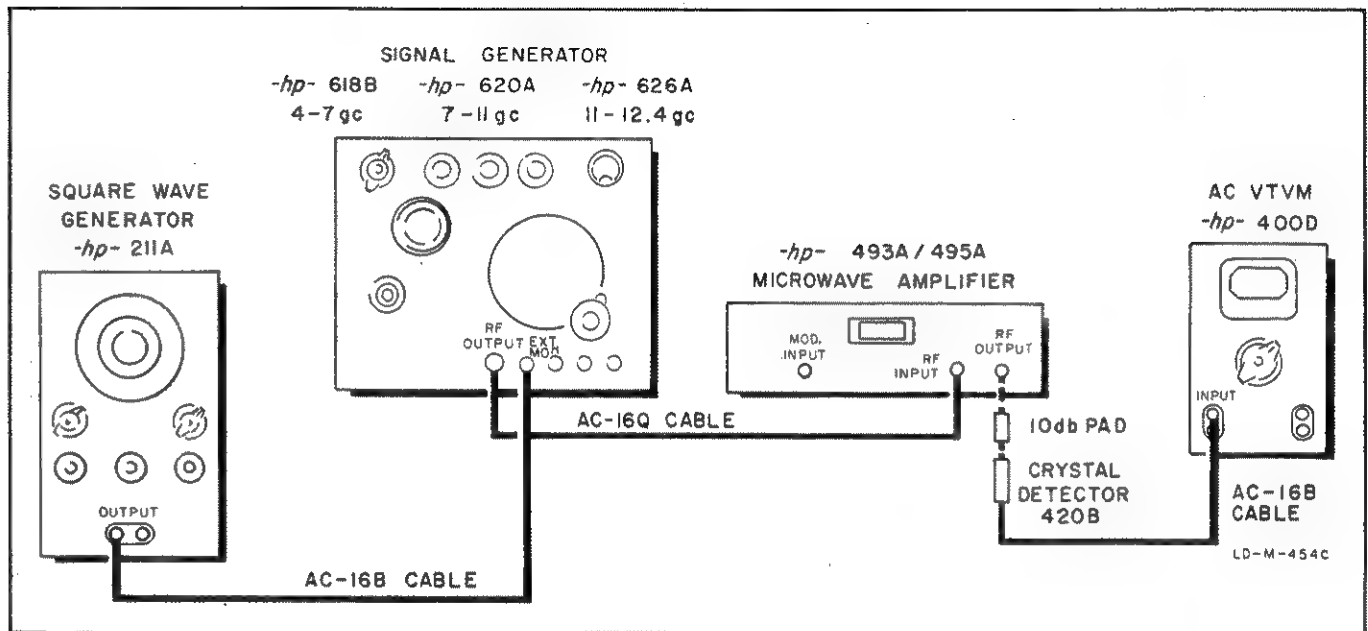

Figure 5-9. Residual AM Check
a. Connect the Model 493A as shown in figure 5-9.